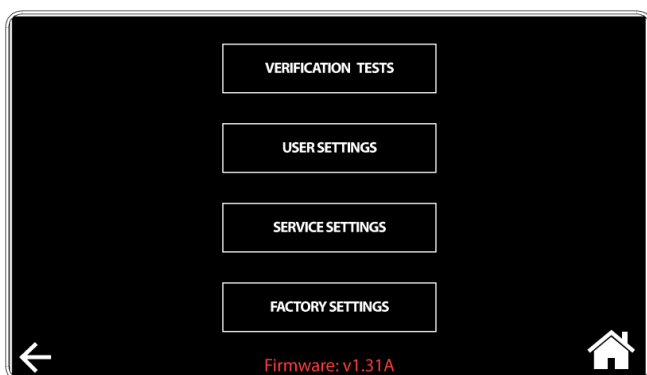
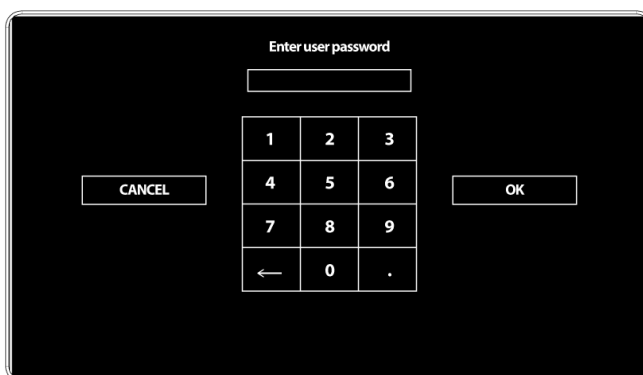

Figure 3-13
Figure 3-14
- 3.3.2. Navigating to the Menu Settings Screen (*Figure 3-13*) and selecting **User Settings** will navigate the display to the User Settings Password Screen (*Figure 3-14*). Enter 8 7 0 5 and press OK. The User Settings screen will display 6 customization options. (*Figure 3-15*)